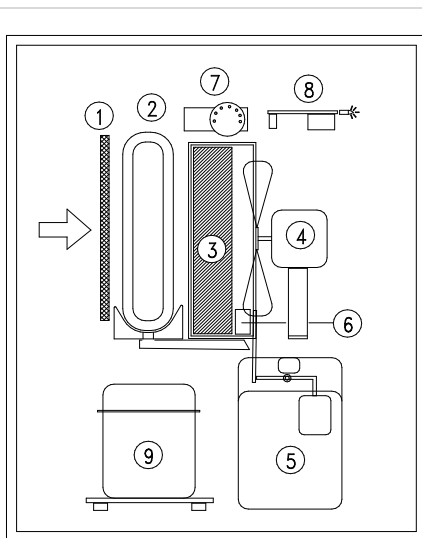
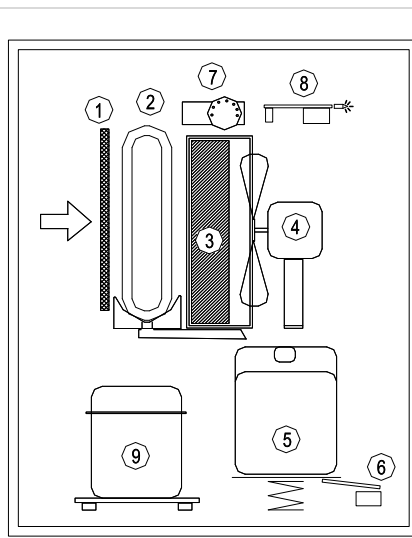

Fig. 1
Fig. 2
With reference to the drawing (fig. 1), the air is drawn in through the back side of the dehumidifier, then it passes through the **filter (1)**, through the aluminium refrigerated coil or **evaporator (2)**, again through the heat-exchanger or **condenser (3)**. Finally, the **motor fan (4)** expels the air back into the room through the front grilled panel: The condensed water is collected in the **tank (5)**. A **micro-switch (6)** stops the machine when the water in the tank reaches the correct level by raising the water float lever. The **humidistat (7)** starts the functioning of the dehumidifier when the humidity is higher than the preset level. An **electronic circuit (8)** controls the defrosting and prevents the **compressor (9)** repeated starts within too short a time by delaying each new start. Some models have a different water tank stop device and use a gravity system (fig. 2) instead of the floating ball.